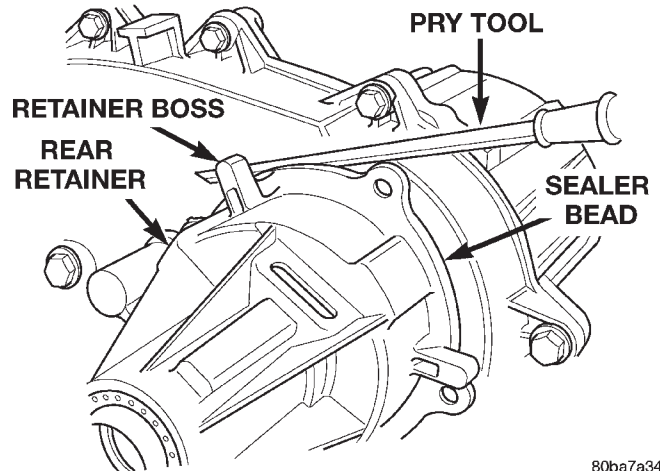
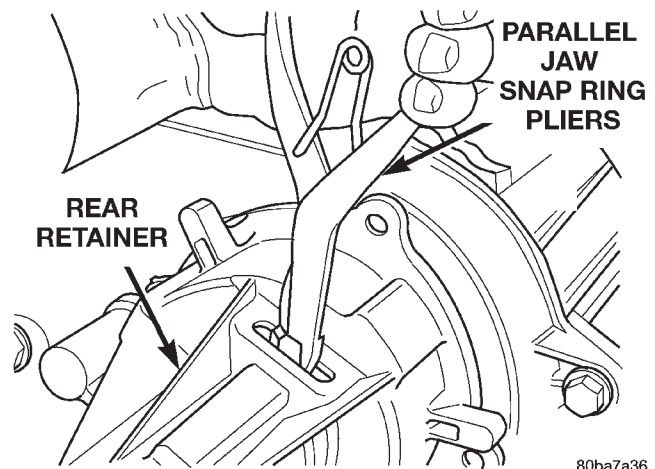

Fig. 16 Loosening Rear Retainer
Fig. 17 Disengaging Rear Bearing Locating Ring
- (3) Loosen rear retainer with pry tool to break sealer bead. Pry only against retainer boss as shown (Fig. 16).
- (4) Remove rear retainer as follows:
- (a) Spread rear bearing locating ring with snap ring pliers (Fig. 17).